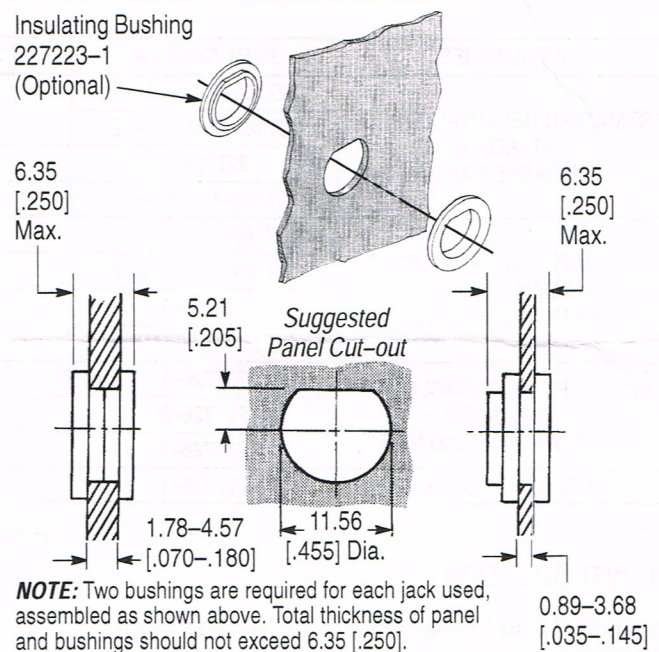

Figure 3
The assemblies containing a solder tab on the lockwasher are used with coaxial cables. For installations requiring ground isolation, the use of the insulated receptacle is recommended. Ground isolation can also be obtained with the standard receptacles by use of the insulating bushings as shown in Figure 3.
1. For installation requiring insulating bushings, use the panel cut-out as shown in Figure 3.